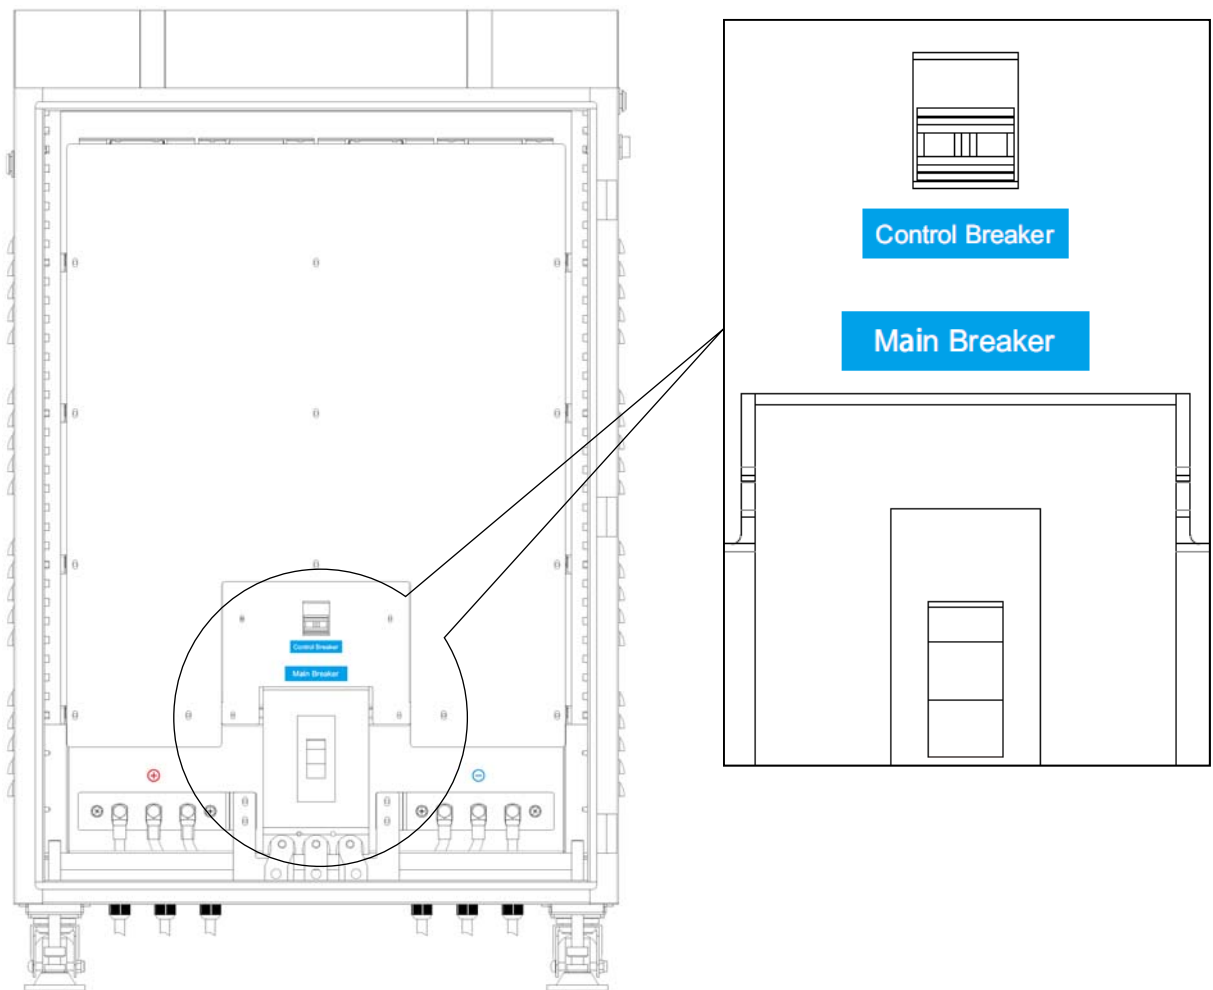

Fig 3.1 Start of the battery cabinet
1. Open the door of the battery cabinet, and check the handle of breaker inside the battery cabinet. The handle should be available for operation (refer to Fig.3.1).